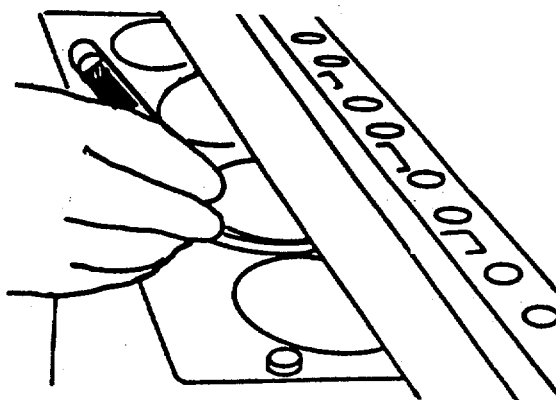

FIGURE 4-81. Checking Top Surface.
- c. Check the top surface for flatness between each cylinder (FIGURE 4-81).